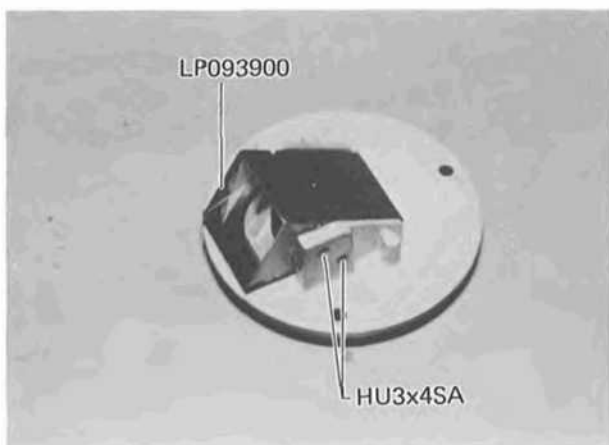

Fig. 10-6
- a) After loosening two Screws HU3x4SA, remove the Adhesive OT1028 (Araldite). (See Fig. 10-6)